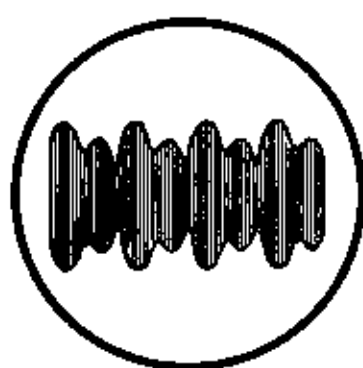
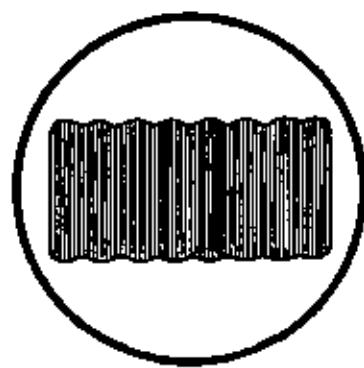

FIG. 1
FIG. 2
- (5) Unless the carrier and sideband suppression is already adequate, the pattern will have "ripples" of some form along the upper and lower edges, as in the accompanying figure 1. Adjust the slug in coil L2, potentiometer R12, and potentiometer R15, in that order, decreasing the amplitude of the ripples with each adjustment. Repeat the adjustment of these components several times until no further reduction in ripple amplitude can be obtained. At this point, the oscilloscope pattern will resemble figure 2.
- (6) Adjust the carrier balance potentiometers (screw driver adjustment through the front panel) to further reduce the ripple amplitude.